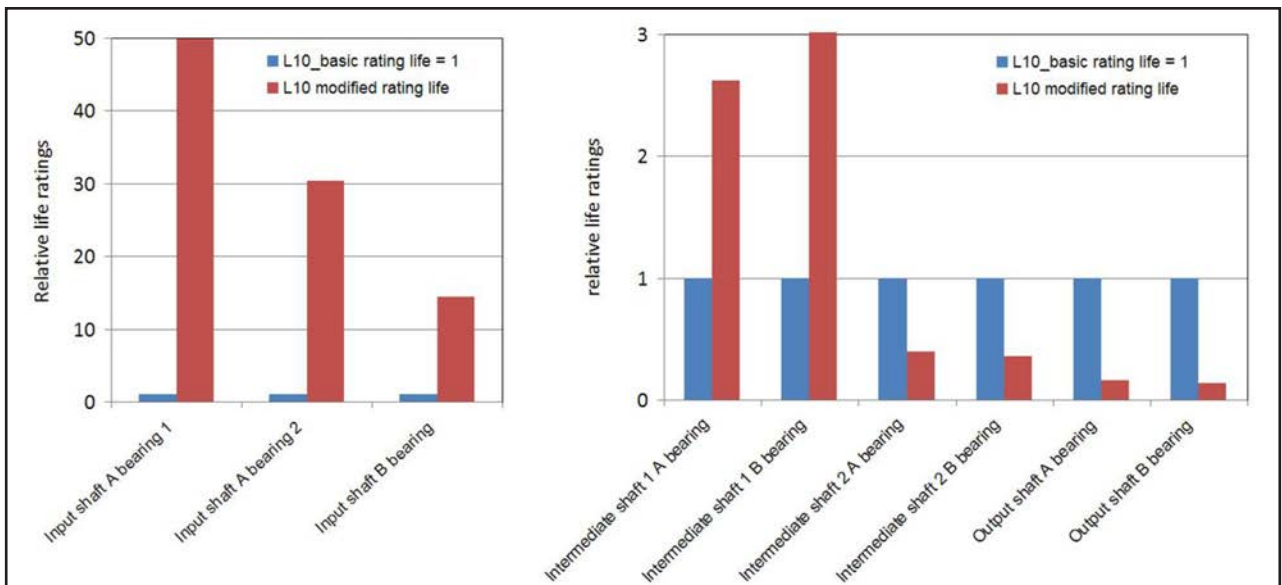
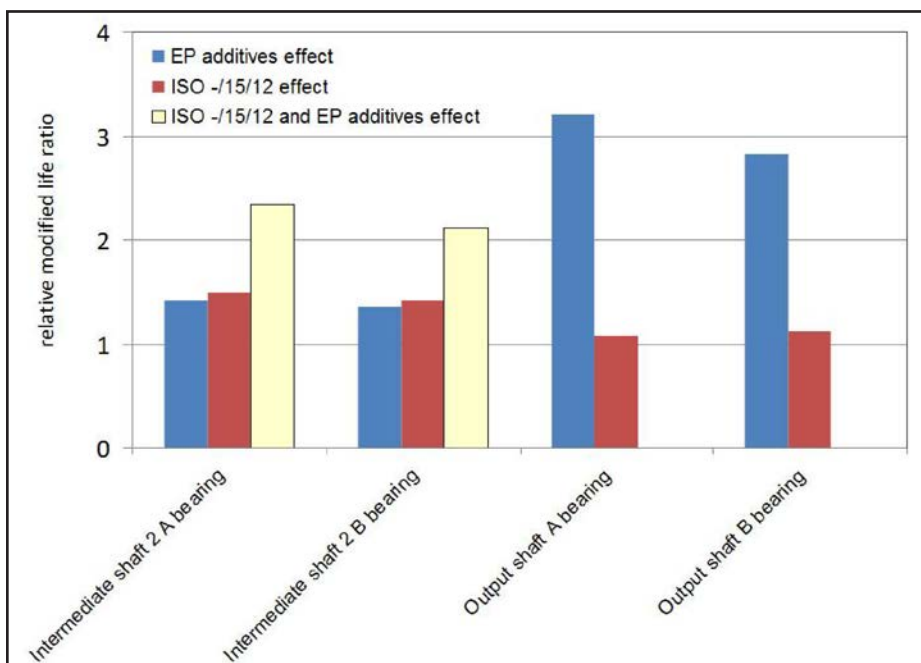

Figure 6 Overview of the modified life rating of the gearbox bearings normalized to the basic rating.
Figure 7 Relative increase of bearing life as result of corrective actions about lubricant EP additives and improved cleanliness of the oil.
- Examining the results of Table 1 and Figure 6, the following observations can be made:
Figure 7 shows the relative improvements that would be possible to achieve in relation to the original modified life rating shown in Figure 6.
- Examining the results of Figure 7, the following can be found: